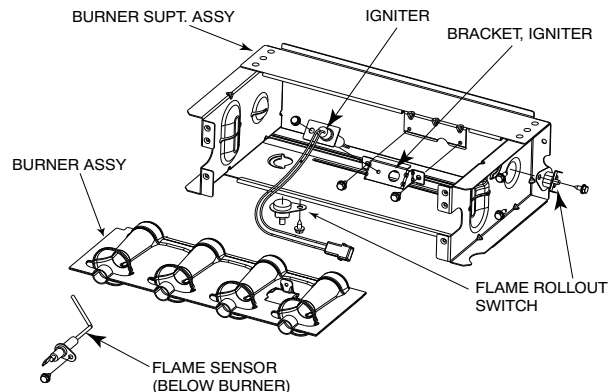
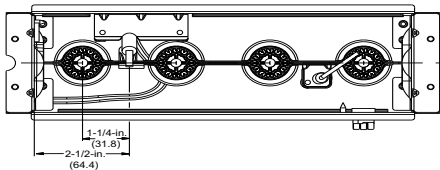
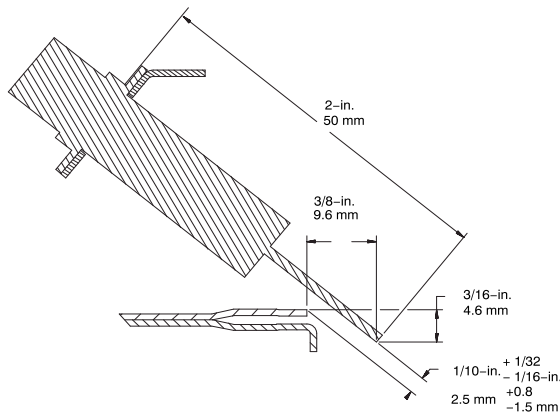

Fig. 66 – Burner Assembly
Fig. 67 – Igniter Position - Top View
Fig. 68 – Igniter Position - Side View
Refer to Fig. 66.
8. Check the igniter alignment. See Fig. 66, Fig. 67, and Fig. 68.
The igniter does **NOT** require annual inspection. Check igniter resistance before removal. See Fig. 66, Fig. 67, and Fig. 68.
- a. Using a 1/4-in. driver, remove the two screws securing the igniter mounting bracket to the burner assembly See Fig. 66.
6. To replace igniter and bracket assembly, reverse items 5a through 5d.
7. Reconnect igniter harness to the igniter, dressing the igniter wires to ensure there is no tension on the igniter itself. See Fig. 66.